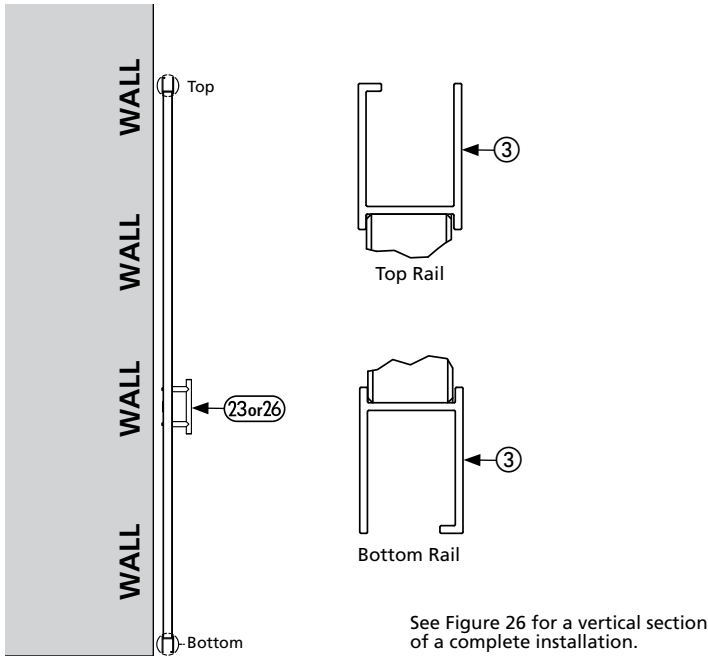

Figure 10. Rail Orientation
1. Align one of the two rails ③ to bottom of door, in the configuration shown in Figure 10.
1. Align other rail ③ with the top of door, in the configuration shown in Figure 10.